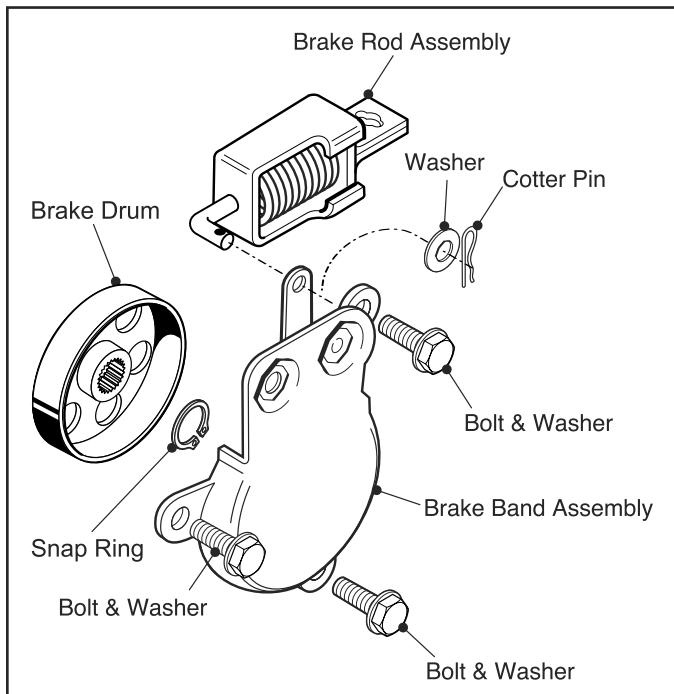
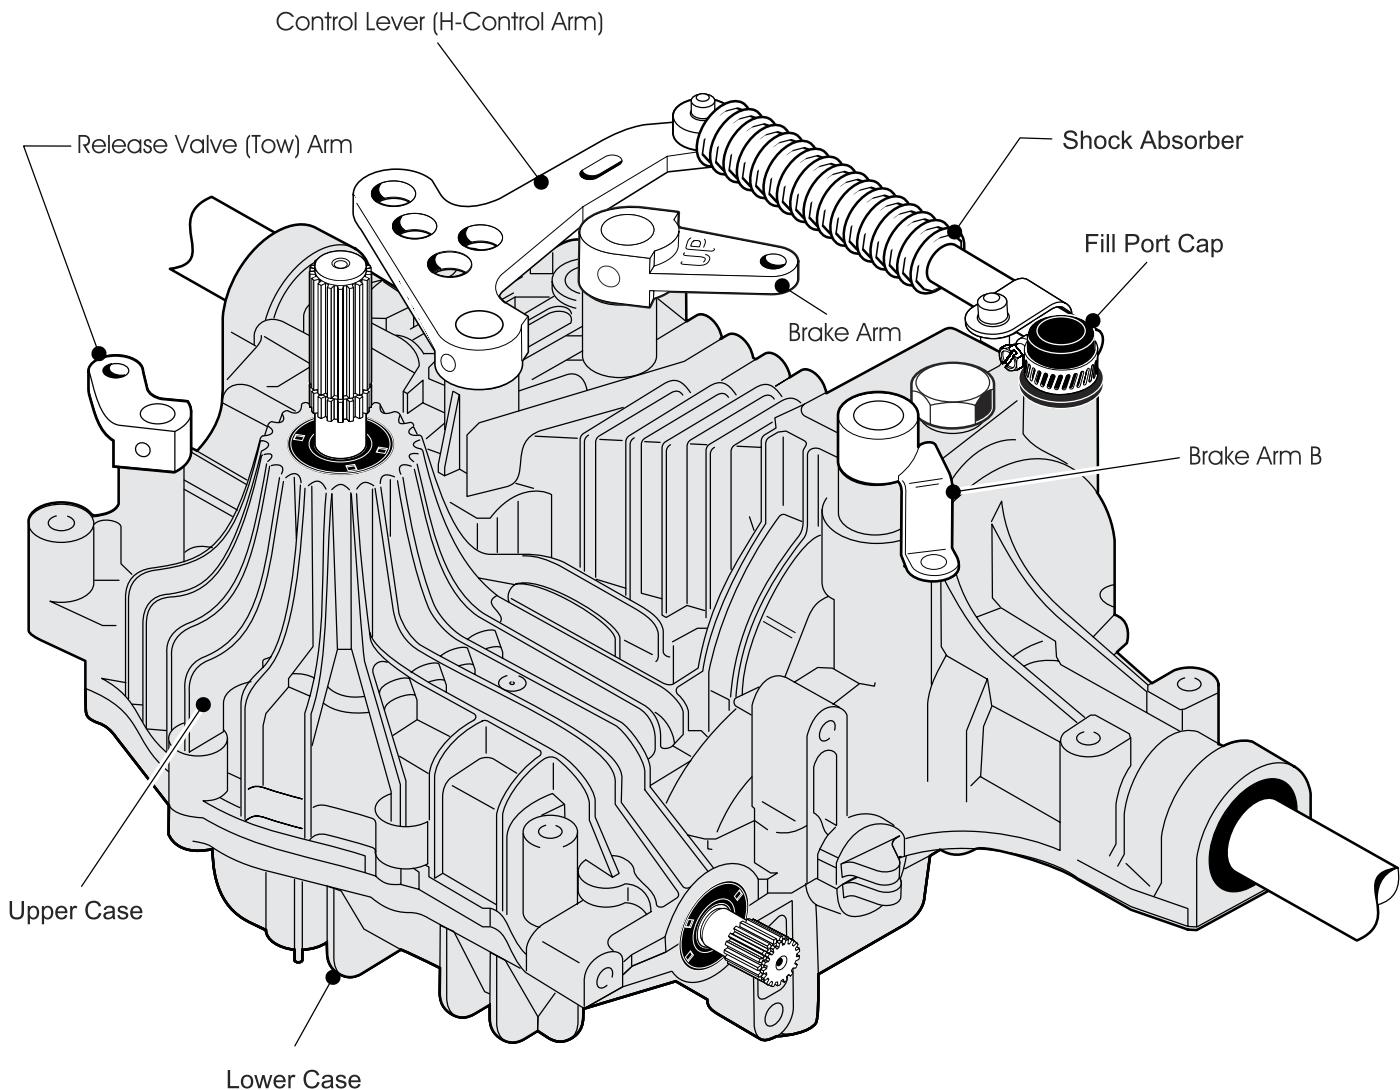

Fig. 2, Brake Assembly Removal
Fig. 3, Levers and Arms Removal
1. Remove the Cotter Pin and Washer from the Brake Rod Assembly. (Fig. 2)
2. Remove the Brake Rod Assembly from Brake Arm B (see Fig. 3) by pivoting 90 degrees and sliding downward. (Fig. 2)
3. Loosen and remove the (3) 8 mm bolts/washers (12mm wrench) and detach the Brake Assembly. (Fig. 2)
4. Remove Snap Ring (Snap Ring Pliers) and the Brake Drum from Brake Shaft. (Fig. 2)
1. Remove the Shock Absorber. (*Fig. 3*)